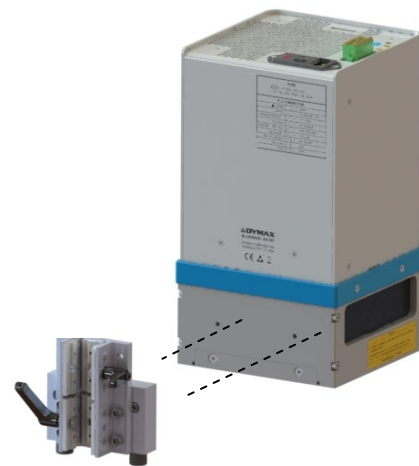

Figure 2. Attach the Carriage
3. Using a 4-mm hex key, attach the carriage to the emitter using the screws supplied with the carriage. (Figure 2)